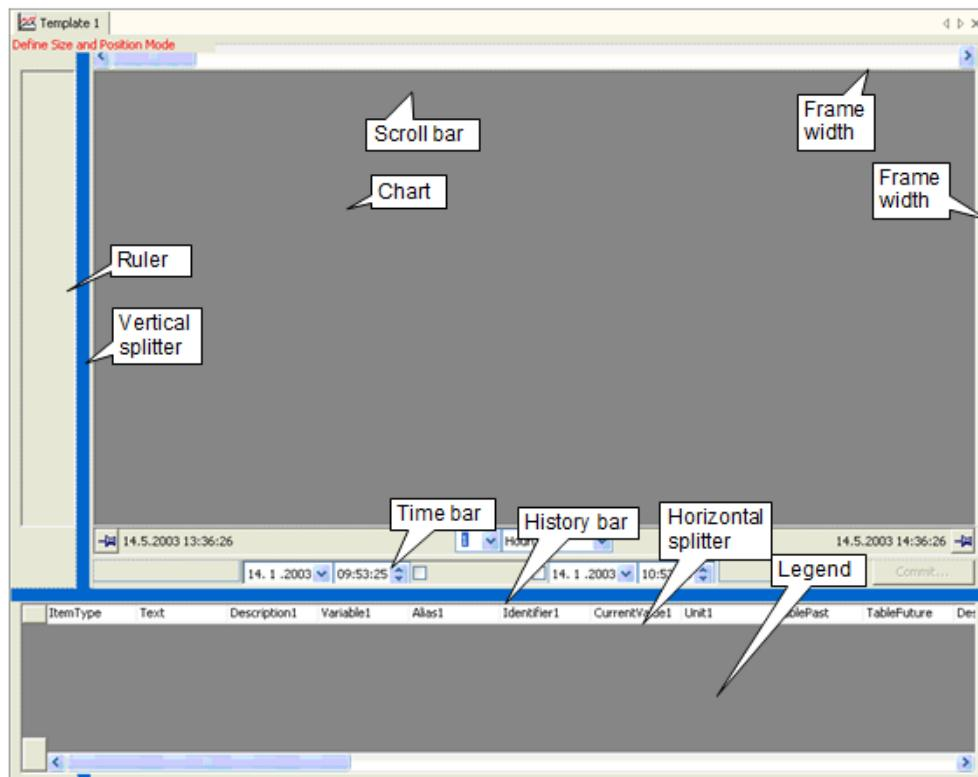

Figure 64: Example template for chart windows with one chart
The following example illustrates one way of creating a template for chart windows with one chart. If the template is meant for charts with trend plots, the best position for the legend is below the chart (Figure 64), for charts with columns, to the right of the chart.
- Resize and position the legend at the bottom so that its distance from the bottom and the edges of the window is the same as the frame width used in the template. Frame width is the empty space left just inside the window edges where no other controls except splitters are drawn (see Figure 64).